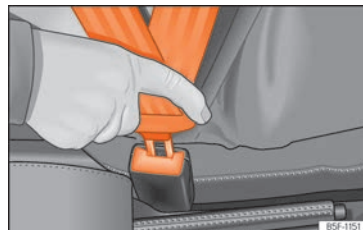

Fig. 9 Insert the latch plate of the seat belt into the buckle.
- Insert the buckle plate in the buckle of the correct seat » » » Fig. 9.